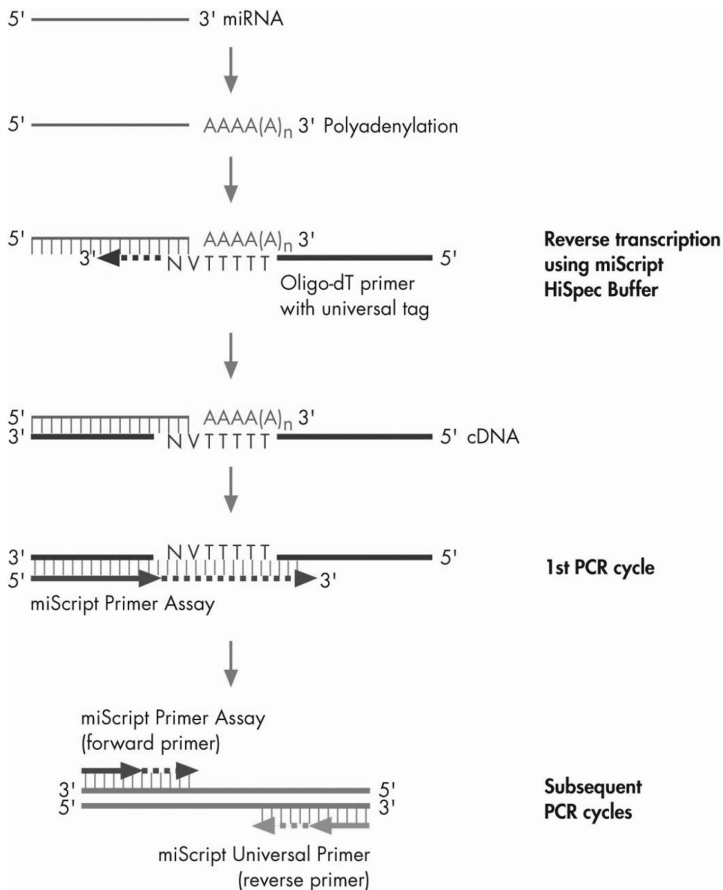

Figure 2. Conversion of mature miRNAs into cDNA and subsequent detection.
When reverse-transcription reactions are performed in miScript HiSpec Buffer, mature miRNAs and certain small nucleolar RNAs and small nuclear RNAs (snoRNAs and snRNAs, see “Controls in miScript miRNA PCR Arrays and miScript miRNA QC PCR Arrays”) are selectively converted into cDNA. The conversion of long RNAs, such as mRNAs, is suppressed. Mature miRNAs are polyadenylated by poly(A) polymerase and reverse transcribed into cDNA using oligo-dT primers (Figure 2). Polyadenylation and reverse transcription are performed in parallel in the same tube. The oligo-dT primers have a 3' degenerate anchor and a universal tag sequence on the 5' end, allowing amplification of mature miRNA in the real-time PCR step. miScript miRNA PCR Arrays, used in combination with the miScript SYBR Green PCR Kit, enable quantification of mature miRNA by real-time PCR. The combination of polyadenylation and the universal tag addition ensures that miScript miRNA PCR Arrays do not detect genomic DNA.